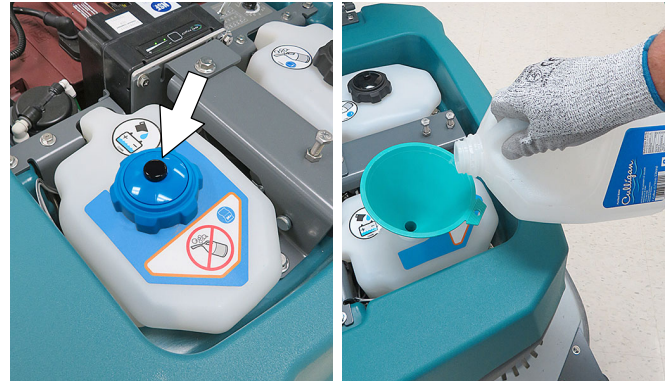

FIG. 29
2. Remove the blue cap from the automatic battery watering tank (Figure 29).
3. Pour distilled water into tank (Figure 29). Use a funnel to prevent splashing liquid on scrub head motors below.